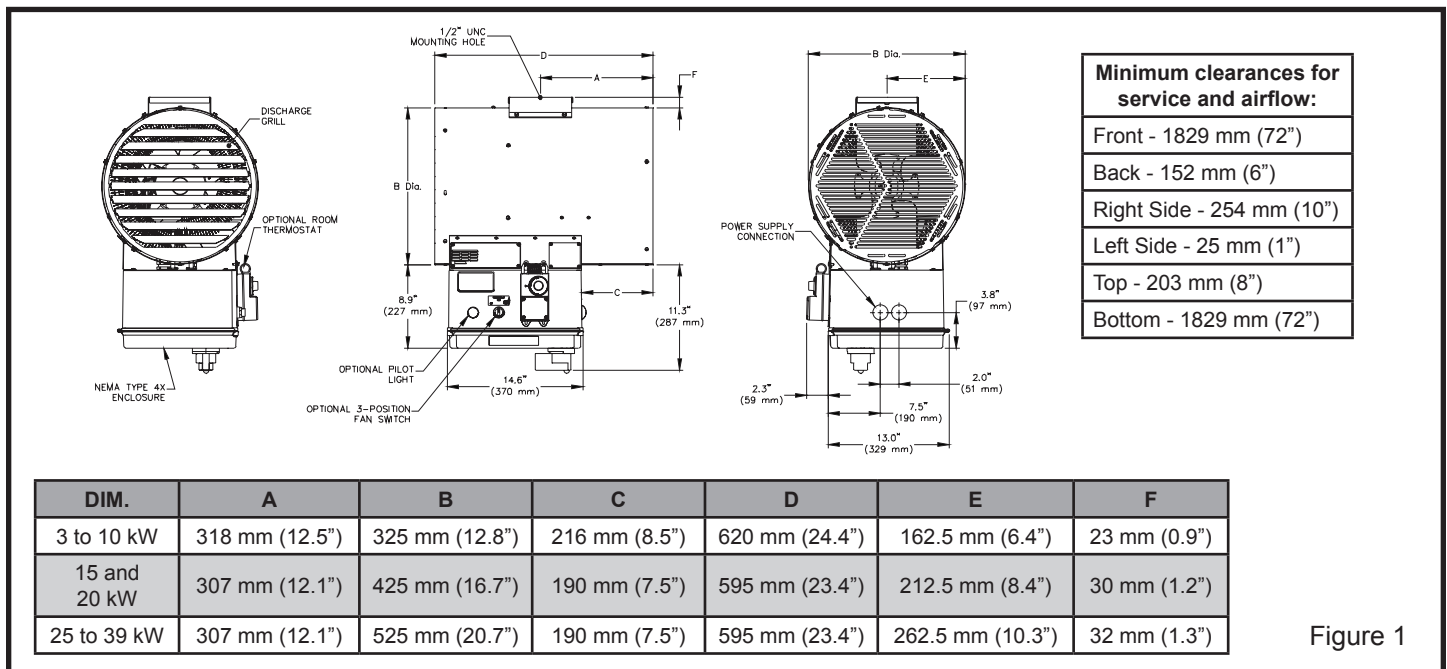

Figure 1
1. The heater's inlet and discharge areas must not be obstructed. See figure 1 for minimum clearances.